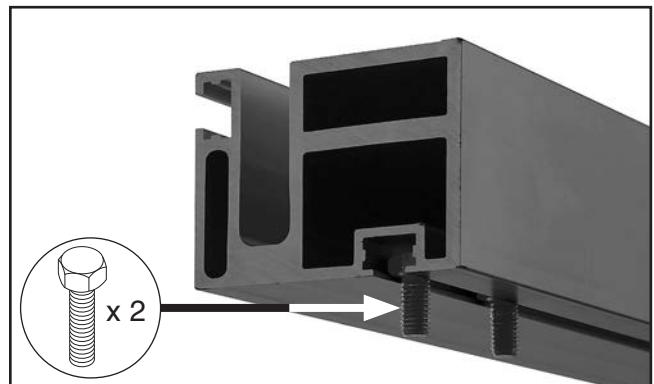

Figure 20. Location of hex bolts for mounting switch.
- Remove (2) M8-1.25 x 16 hex bolts from switch, then remove tap screw and end cap from left end of front fence rail. Insert hex bolts into bottom slot on left end of fence rail (see **Figure 20**). These bolts will be used later for mounting the switch.